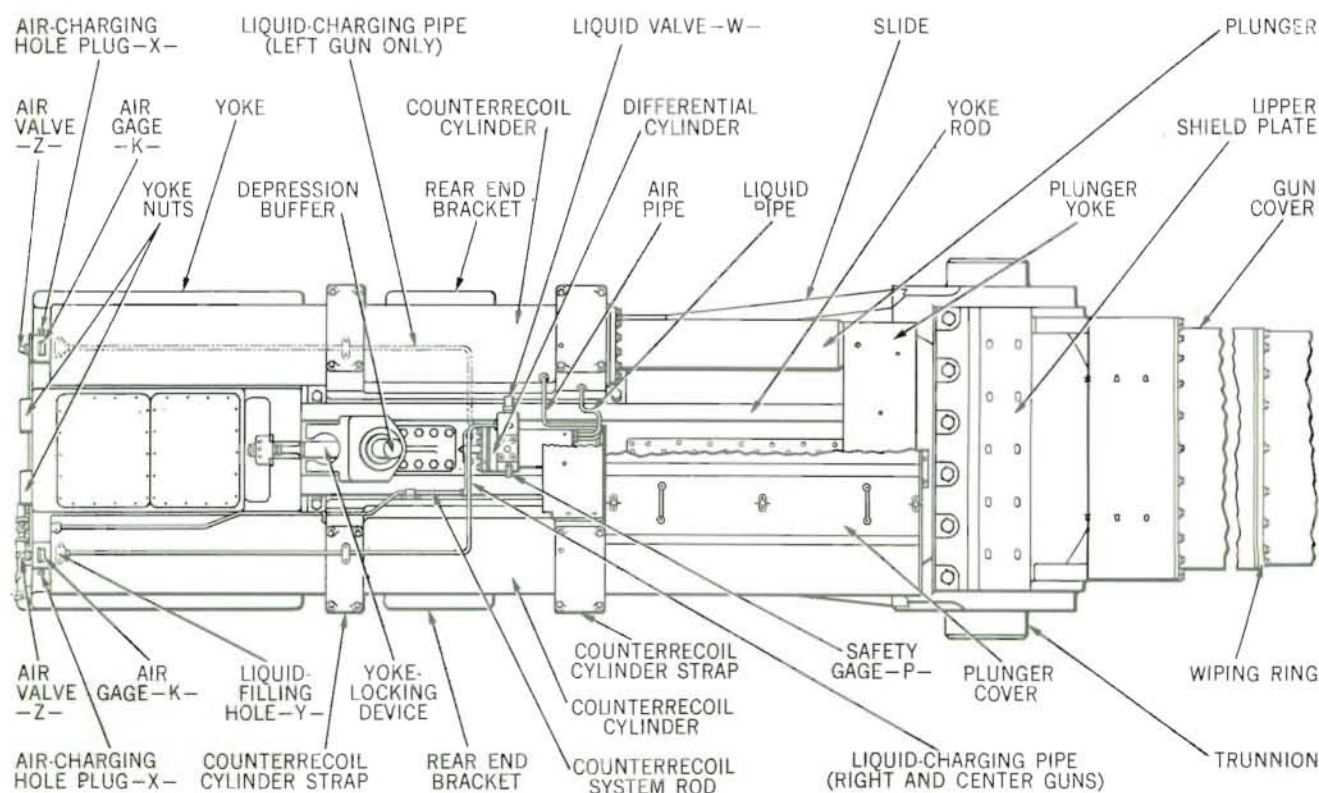
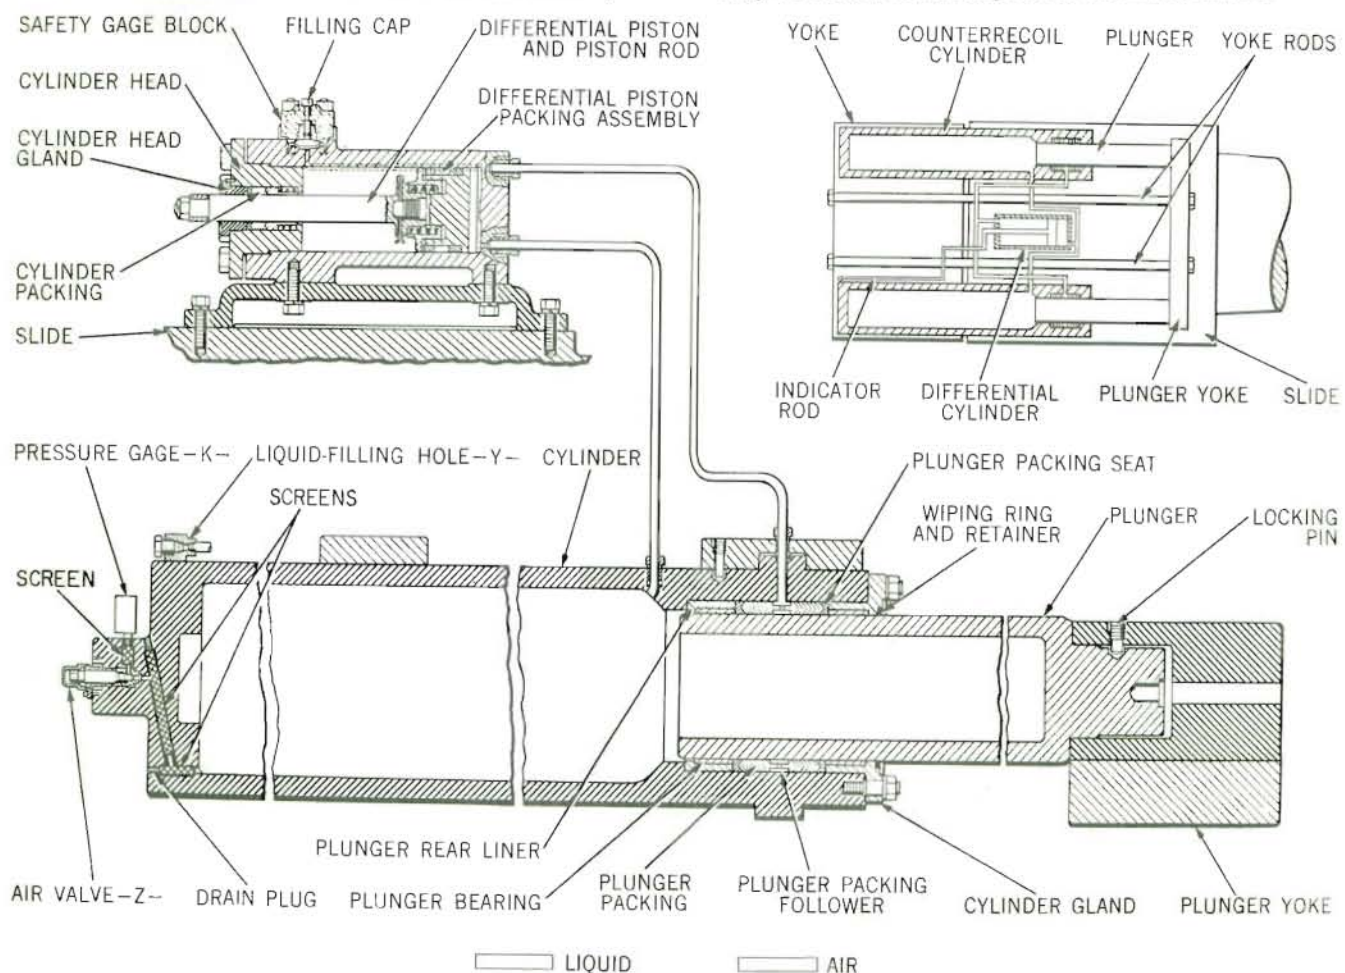
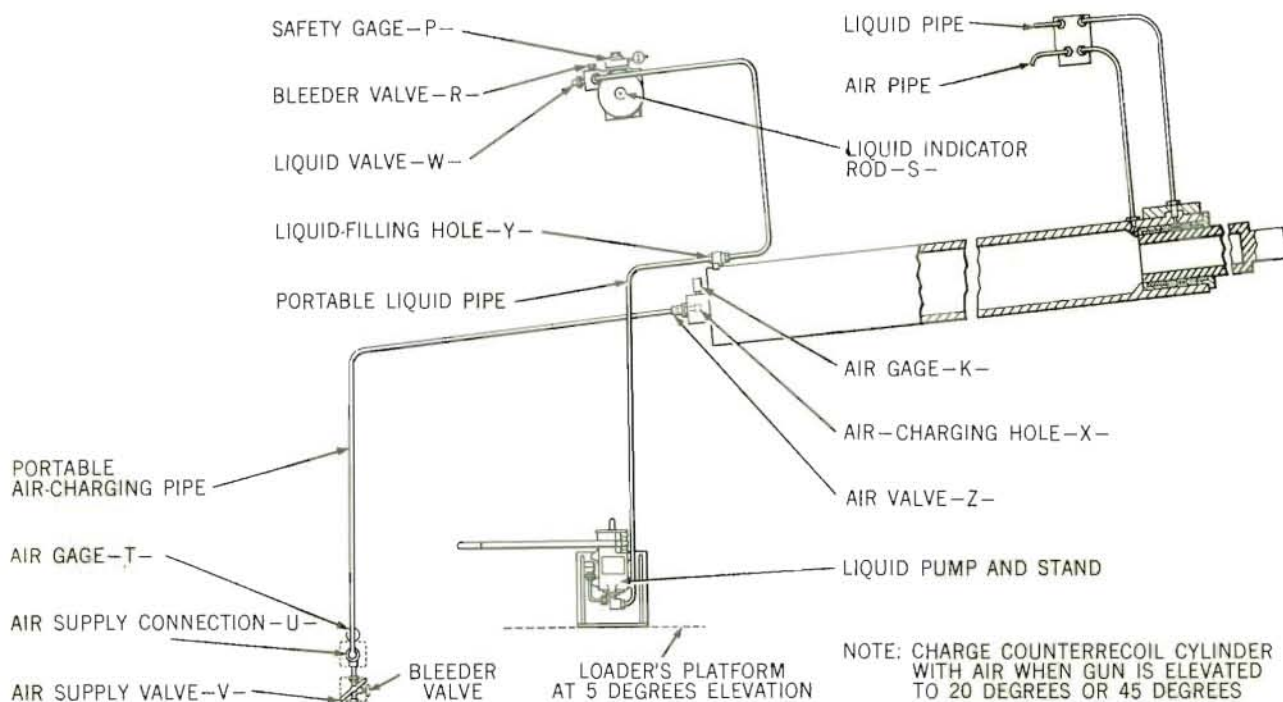

Figure 4-6. 16-inch Slide Mk 6 Mod 0, General Arrangement, Plan View
Figure 4-8. Counterrecoil System Schematic, Sectional View
Figure 4-9. Counterrecoil System Air Charging and Liquid Devices
General arrangement (fig. 4-6). The gun slide forging is the structural foundation for the other components of the slide. The entire assemblage is suspended and pivoted by the integral trunnions of the slide forging. Frictionless vertical rotation in the gun pocket is provided by the deck lugs. The upper and lower shield plates fit within the turret face plate and function to close the gun port in all slide positions.
Gun cover. The gun cover (fig. 4-6) is a cylindrical subassembly of the slide that extends the slide bore forward and through the gun port. A cylindrical weldment of 0.50-inch steel plate, with an integral diameter of 49.5 inches, the gun cover is secured to the front face of the slide by a steel flange welded to the gun cover plates, 24 equally spaced bolts, and a gasket. A wiping ring at the forward end of the gun cover provides oil and weather seal for the slide cylinder. The gun cover is completely enclosed by a leather buckler, clamped on the outer surface of the wiping ring and mounted on the front face of the armor face plate.
Counterrecoil system. The counterrecoil system (fig. 4-8) is a hydropneumatic gun recuperator that consists of two air bottles (or counterrecoil cylinders), two plungers and their packings, and a differential cylinder unit. A plunger yoke, yoke rods, gages, valves, and other parts, including a removable cover, complete the assembly. The system absorbs part of the energy at gun recoil to return the gun to battery. The entire assembly is located on top of the slide, as shown in figure 4-6. The axes of the two cylinders are parallel, 43.0 inches apart, and 32.5 inches above the gun centerline. The differential cylinder is centered between the counterrecoil cylinders, 38.0 inches above the gun centerline. In their installed arrangement in the slide, the chambers of the counterrecoil cylinders are each charged with air to an initial pressure of 1550 pounds per square inch. This stored energy is sufficient to hold the gun in battery at any angle of elevation. Recoil action builds up air pressure in the chambers to a peak of approximately 2150 pounds per square inch (at maximum recoil), and this stored energy thrusts the gun back into battery with sufficient force, at the end of the stroke, to require buffing by the recoil piston plunger. The differential cylinder unit varies liquid pressure on the plunger packings as the air pressure varies to seal in the high air pressures at all times.
Counterrecoil cylinders. A pair of counterrecoil cylinders, with a plunger in each cylinder, comprise the counterrecoil cylinder assembly (fig. 4-8). The air chambers of both cylinders are connected to the
Plungers. The plungers are cylindrical monel metal forgings. Each plunger is a hollow cylinder open at the rear and closed at the forward end, assembled as shown in figure 4-8. The outer surface of the plunger is highly finished so that it will slide easily through the plunger packing without disturbing the high-pressure seal of the plunger packing.
Plunger packing. The plunger packing (fig. 4-8) is an assembly of preformed-composition, chevron-type packing rings. These rings are assembled in the bore at the forward end of the counterrecoil cylinder. There are 12 chevron packing rings in this assembly, with 6 rings on either side of a steel ring called the plunger packing follower. The entire assemblage is seated and retained against a shoulder in the bore by a gland. The follower is connected by a drilled passage and pipe line to the oil chamber of the differential cylinder.
less than the area in the air side because of the piston rod, which passes through a stuffing box to the atmosphere. This results in greater pressure on the liquid side to distend the chevron packing rings. If there is leakage in the system, it will be oil and not air. Leakage is indicated by the amount that the indicator rod (fig. 4-6) attached to the end of the differential piston rod protrudes at the breech. Under no condition should the indicator rod be allowed to project beyond the rear face of the yoke; when it does, the liquid in the differential cylinder must be replenished. A liquid pressure safety gage (P) (figs. 4-9 and 11) is located on top of the differential cylinder; a pipe line connects it to the liquid side of the cylinder so that the liquid pressure on the plunger packing is indicated at all times. This gage is installed with a special safety feature which prevents loss of liquid in the event of gage rupture. The mounting consists of a plate with a screw thread gage seat bolted over a cavity in the differential cylinder forging. A leather diaphragm under the plate separates the pipe line to the plunger packing from the gage lead in the block. For proper functioning, the space above the diaphragm must be filled with liquid before the system is charged.
Plunger yoke and yoke rods. The counterrecoil plungers are connected to the gun yoke through the plunger yoke and two yoke rods (fig. 4-8). The plunger yoke has integral yoke shoes which slide on the plunger yoke guide rails. These rails are mounted lengthwise and parallel to each other, on the top of the slide, between the counterrecoil cylinders. The forward end of each plunger is seated in the plunger yoke and is held there by the recuperator pressure; a locking pin prevents the plunger from turning. The entire assemblage is housed beneath a plunger cover that consists of formed steel plates and flanged frames in a riveted and spot welded assembly that is bolted to the slide. Portable sections may be removed for inspection and maintenance.
screw and nut assembly from dead load stresses. A securing pin latch locks the device when the pin is either fully seated or fully retracted. A second socket in the gun girder is aligned with the pin when the gun is at 20 degrees elevation. This is used to secure the slide when the portable air charging pipe is installed for replenishing the recuperator air charge (fig. 4-9). Steps and hand grips in the gun girder give access to the securing device. The device can be reached from the gun pocket floor when the gun is at either securing position.
Servicing the counterrecoil system. The mechanisms of this system are provided with special portable pipe and pump facilities and with permanently located high-pressure air-line arrangements (in the gun pocket, turret pan floor) for the purpose of replenishing air and liquid and to permit service tests. All openings, valves, and gages are precisely designated by nameplates and the parts labeled have cross-reference instructions and diagrams compiled on drawing 232190. For convenient reference, the diagrams, servicing connections, and accessories are shown in figure 4-9, and the instructions are repeated below. These instructions are specific routines, both for initial charging of liquid and air, and for subsequent replenishment of one or both.